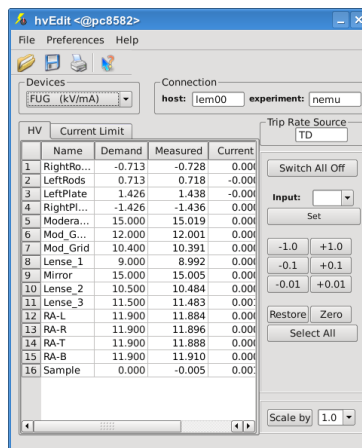

Figure 4.2: The hvEdit window with the “FUG” devices selected.
3. Run `hvEdit` from the laptop in the μE4 area, then select “FUG” from “Devices” drop-down menu. Zero the voltages of “Moderator”, “Mod_Guard”, “Mod_Grid”, “Lense_1”, “Mirror”. Then select “NHQ” from “Devices” drop-down menu and set “HV MCP1” to 0 (see Fig. 4.2). Before you continue, make sure that all read-back values of these elements are actually 0, if not, please do not proceed and call your local contact.